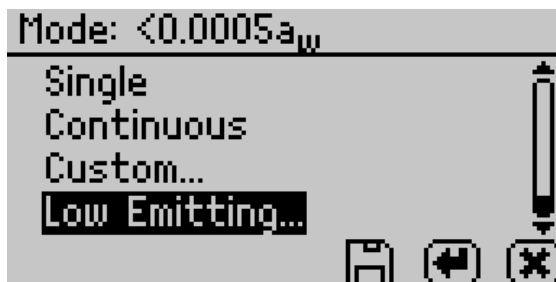

Figure 40 Custom mode options
- **Mode.** Select to choose between Single, Continuous, Custom, or Low-Emitting mode (Figure 40). The current mode settings appear at the top of the screen with the number of tests appearing first, followed by the stability value ( $\Delta a_w$ ).